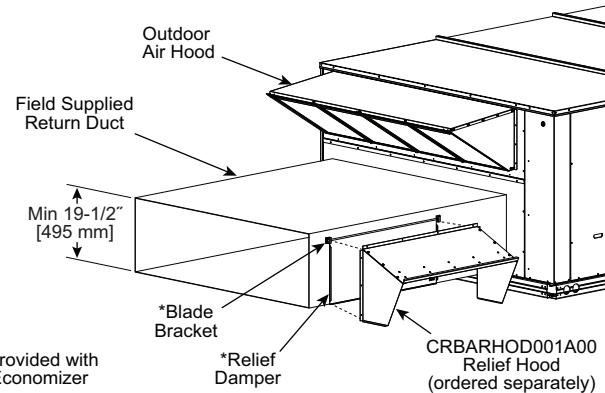

Fig. 35 — Installing CRBARTHOD001A00 Over Relief Damper
4. Using the blade brackets, install the relief damper onto the side of the return duct (see Fig. 35). The two brackets and relief damper are provided with the economizer.
Caulk the backside of the mating flanges to ensure a watertight seal. Install the CRBARTHOD001A00 over the relief damper and screw to the return duct, as illustrated in Fig. 35.